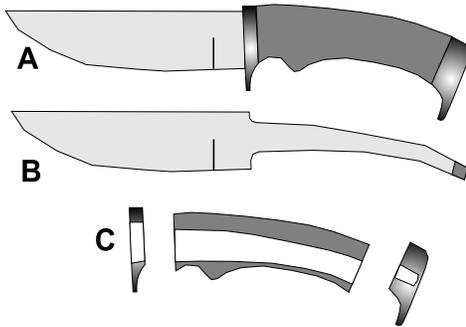

Figure 1: Overall design
between the elements of the knife, the value of the piece is significantly degraded. Consider the knife in Figure 1. The upper drawing (A) is the completed unit, the middle drawing (B) is
A simple (well - maybe simple-minded) solution is shown in Figure 1. Thread the end of the tang with a 1/4 x 20 tap. This is *lots* of fun with a tool steel tang that is generally smaller in one dimension than 1/4". Using a #7 bit, drill a blind hole in the pommel and tap it with a 1/4 x 20 tap. It's helpful to have a blind tap available so you can run the threads almost to the bottom of the hole. You then fit the pommel to the assembled handle, note where the gaps are, sand the handle to compensate, and repeat. Of course, as you remove material from the handle, the orientation of the pommel will change with respect to the handle since the tang length is unchanged. If your pommel isn't radially symmetrical, i.e., circular in cross-section, the only practical way to do this is use a big enough block of material for the pommel so that when it is finally locked down, you can grind out the desired shape. Obviously, this procedure is a pain but it does work. Don't be surprised, however, if the pommel strips just as you tighten it down that last little bit or that the tang appears if you get overly enthusiastic when grinding down the end of the pommel.